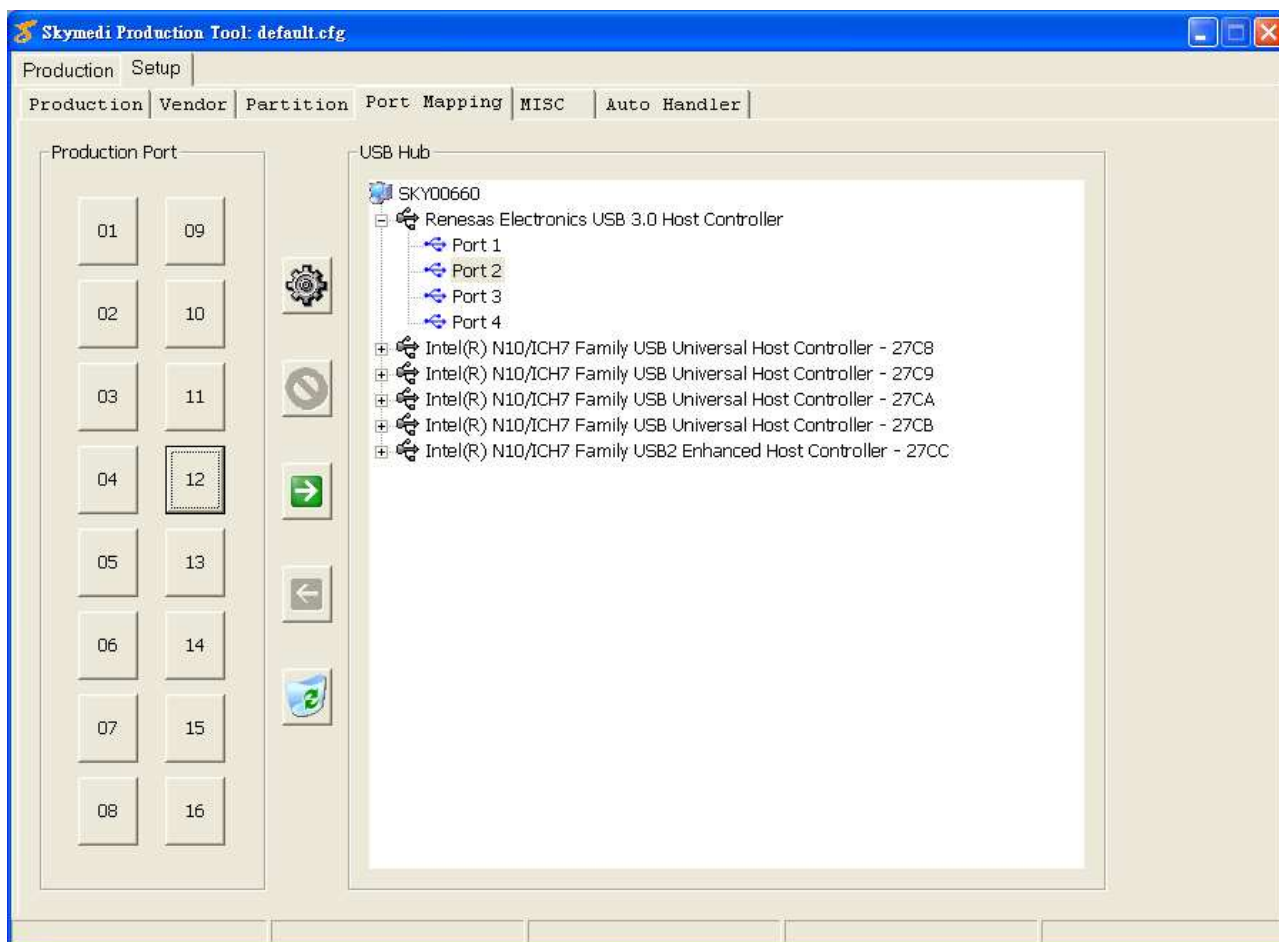

Figure-45 : Manual Port Mapping-3
3. Click the arrow to assign as Figure-45.